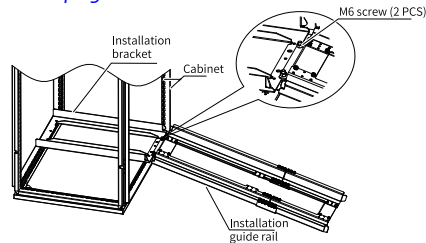

Figure 9-7 Installation of guide rails inside the cabinet
- b. Align the two round holes at the front of the guide rails with the screws on the mounting bracket. Lock them with two M6 nuts to secure the rails to the cabinet, as shown in "Figure 9-7 " on page 128 .